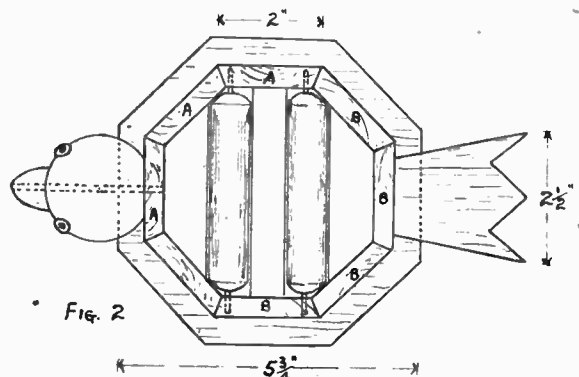

Fig. 2.
Start by cutting the eight sides for the case 6 ins. long, 2 ins. wide and $\frac{1}{8}$ in. thick. The best way to get the correct angles for the mitres is to draw out the plan to full size, as shown in Fig. 2. Then you can proceed to mitre the edges. Go slowly, planing off a little at a time until a perfect fit is obtained, laying the work on the plan from time to time to get the mitre lined up correctly.
The case can now be glued together in two pieces—all the sides marked (A) in Fig. 2 making one half, and all the pieces marked (B) for the other half. These two halves are fastened together after the rollers have been fitted, which is the next job.